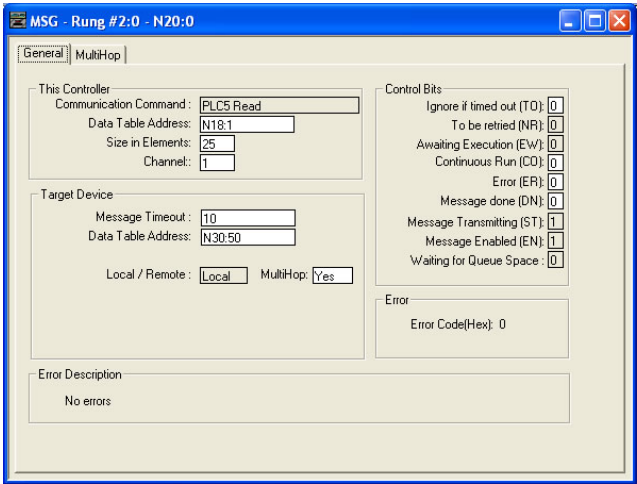

Figure 112: MSG Configuration, "General" Tab
- b) Upon hitting the <ENTER> key while in the “Control Block” entry box, the MSG Properties dialog box should appear (or it can be opened by clicking on the “Setup Screen” button at the bottom of the MSG instruction). Refer to Figure 112.